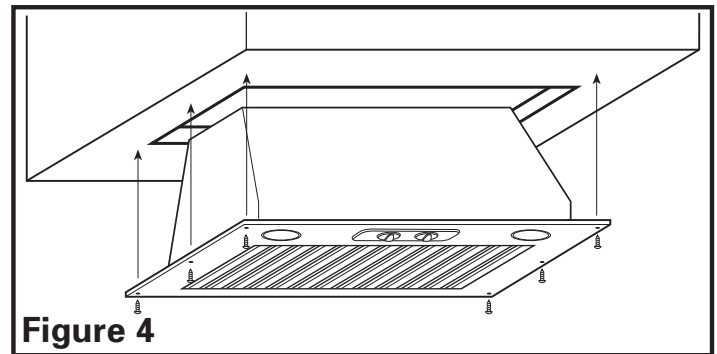

Figure 4
1. Insert the power unit into the hole and secure in place using the six provided mounting screws (**Figure 4**).